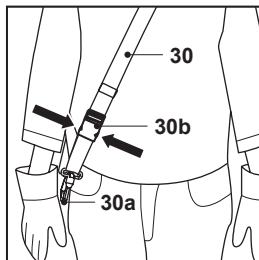

Fig. 23
5. In case of emergency hold the soft grip (7a) of the rear pole (7) with the left hand, and use the right hand to press two clips of the quick release (30b). The product together with the securing clip (30a) will be released automatically from the body because of the weight of the product (Fig. 23).